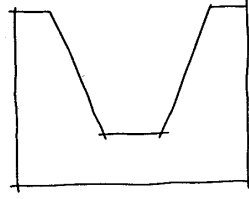

FIGURE 2.36 ■ Step 3, darken the object lines.
- Step 3. Finish the sketch by darkening in the desired outlines for the finished sketch. (See Figure 2.36.)